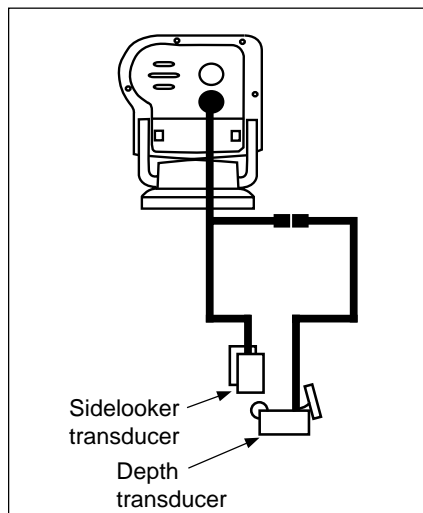

Fig. 2-14
1. If the installation includes the optional Sidelooker transducer, there will be two transducer cables. See Fig. 2-14. The cable from the Sidelooker includes a “Y” connector.